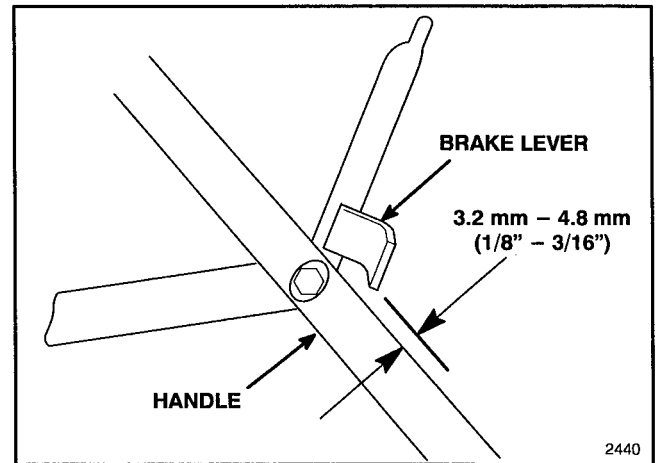

Figure 35
2. CHECK ADJUSTMENT (Fig. 35)—Move control bar toward handle until slack in wire is removed. Gap between brake lever and handle must be